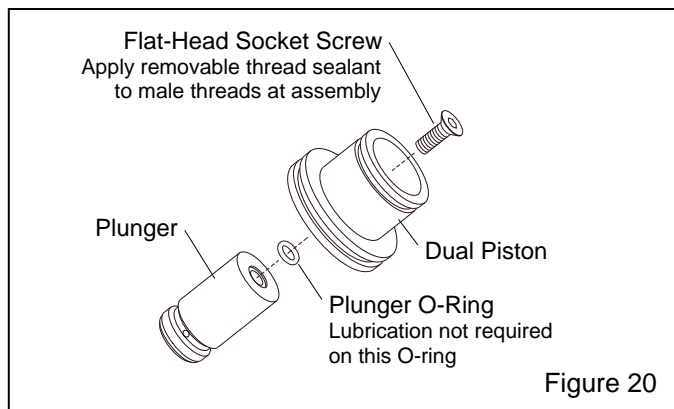

Figure 20
**6.3.2.4** If the plunger and piston were separated as noted in paragraph 6.3.1.5, refer to Figure 20 and apply removable thread sealant to the threads on the flat-head socket screw, and reassemble the parts using the new O-ring supplied with the service kit.